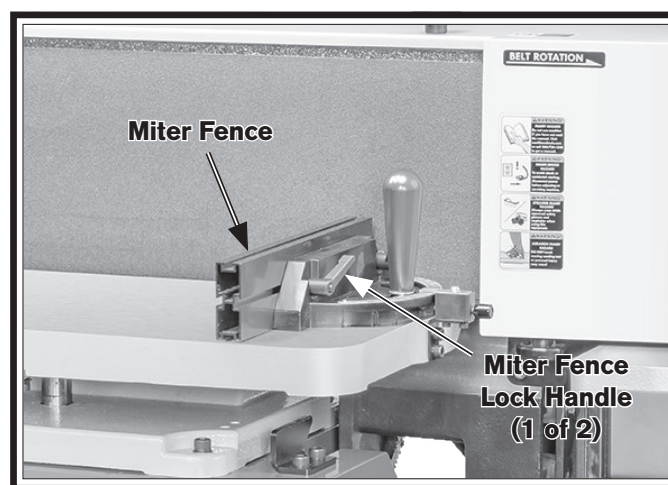

Figure 33. Location of miter fence and miter fence lock handles.
6. Remove (2) miter fence lock handles (see **Figure 33**), then remove miter fence from miter stop.